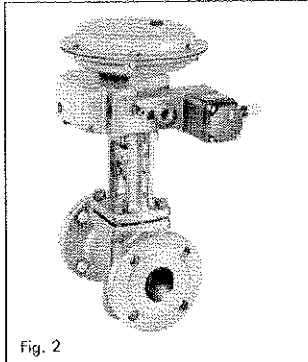

Fig. 2
- Attachment via a connection block to SAMSON's Type 3277 Linear Actuator with SAMSON's Type 3730/3766/3767/378X Positioner (see Fig. 2)